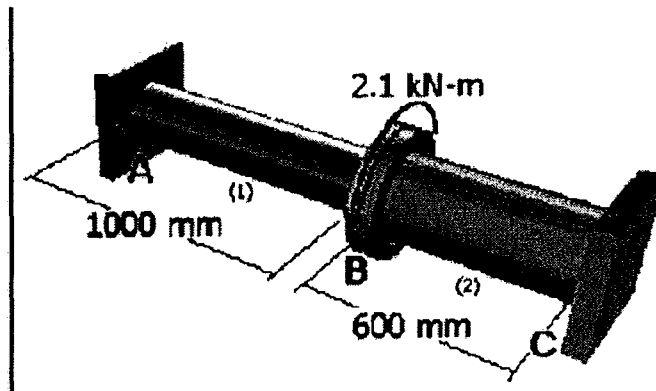

Figure 2
2. A 40-mm solid titanium-alloy shaft ($G = 42 \text{ GPa}$) is connected at B to an aluminum-alloy tube ($G = 28 \text{ GPa}$) that has an outside diameter of 65-mm and an inside diameter of 50-mm. The shaft is subjected to a concentrated torque at B of 2.1 kN-m (Figure 2). Compute: